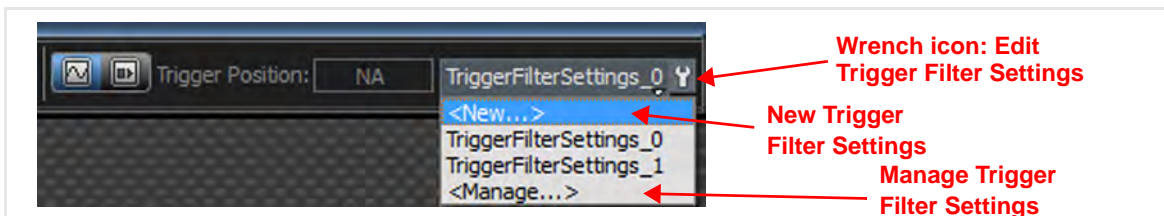

Figure 4.97: Generate a New Trigger Filter Setting
1. To create new trigger filter settings, click **TriggerFilterSettings** and select **New** from the drop-down menu (Figure 4.97). The Trigger Filter Settings window displays.